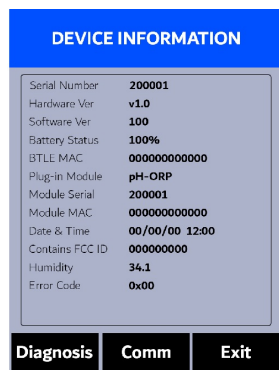

Figure 31.
The **DEVICE INFORMATION** screen is launched when **System** (OK) is pressed in the measurement mode. This screen contains the device serial number, software version, and hardware version (Figure 31). The battery life as a percentage and the MAC addresses for main module also shown.